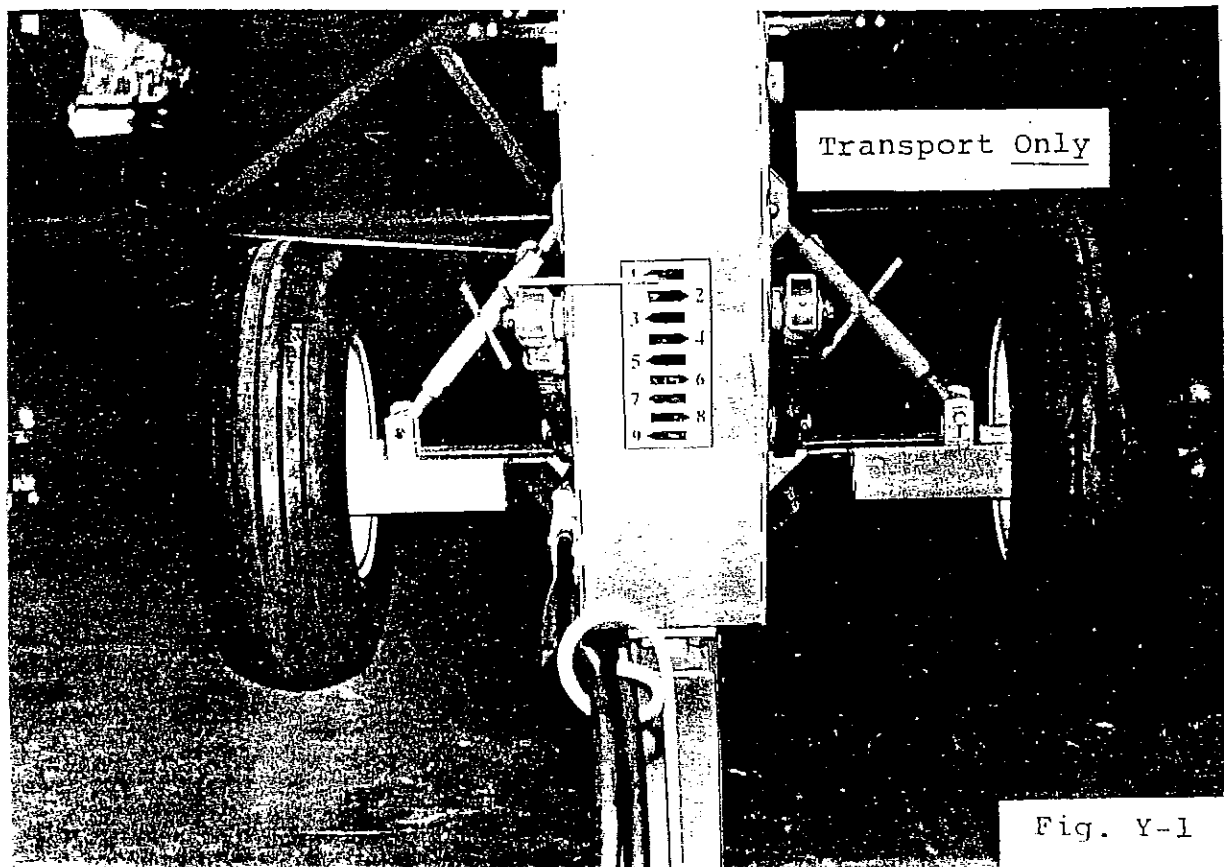

Fig. Y-1
- (e) Change the two transport jacks on the dolly tongue from their "storage" position during field operation (Fig. Y) to the "transport" position (Fig. Y-1).